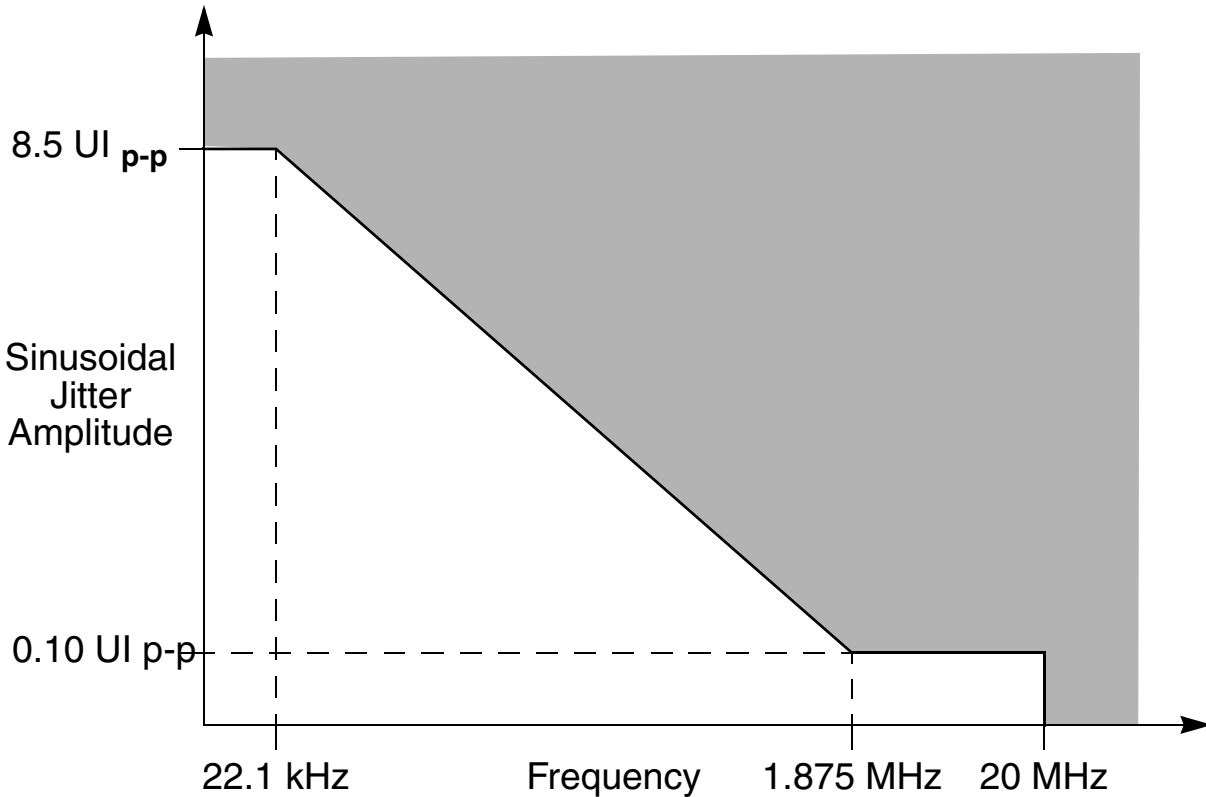

Figure 44. Single Frequency Sinusoidal Jitter Limits
- Total jitter is composed of three components, deterministic jitter, random jitter and single frequency sinusoidal jitter. The sinusoidal jitter may have any amplitude and frequency in the unshaded region of Figure 44. The sinusoidal jitter component is included to ensure margin for low frequency jitter, wander, noise, crosstalk and other variable system effects.